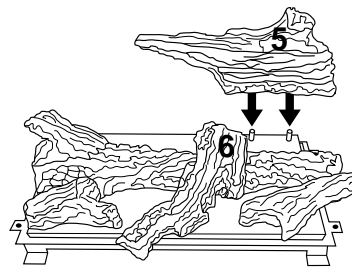

Figure 46 - Installing Logs No. 5 and No. 6
4. Place log #5 (right rear log) onto pins on right rear of burner (see Figure 46). Rest log #6 (middle crossover log) on top of log number 2 as shown in Figure 46.